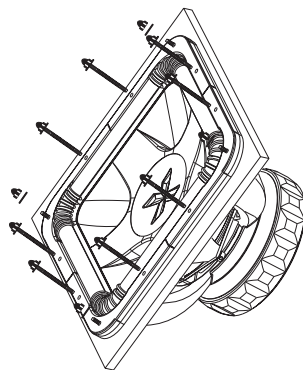

Fig.2
2. Once out of the carton remove the (4) four acorn head nuts and (8) eight bolts securing the SPAIR to the BAM and wood baffle assembly. *Place SPAIR in safe clean location! This does not mean on the floor next to the car where it gets kicked and tripped over everytime you walk by.* Fig.2